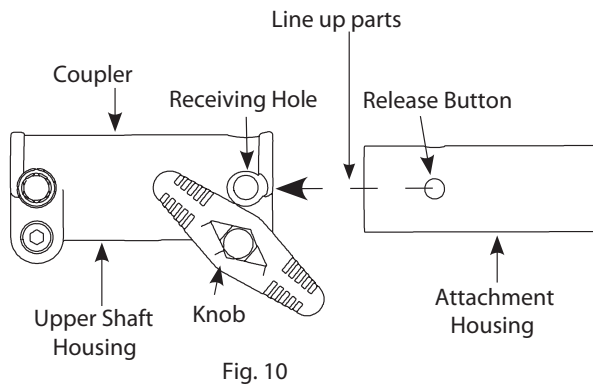

Fig. 10
1. Turn knob counterclockwise to loosen (Fig. 10).
2. While firmly holding the attachment, push it straight into coupler (Fig. 10).
NOTE: Aligning the release button with receiving hole will help installation (Fig. 10).